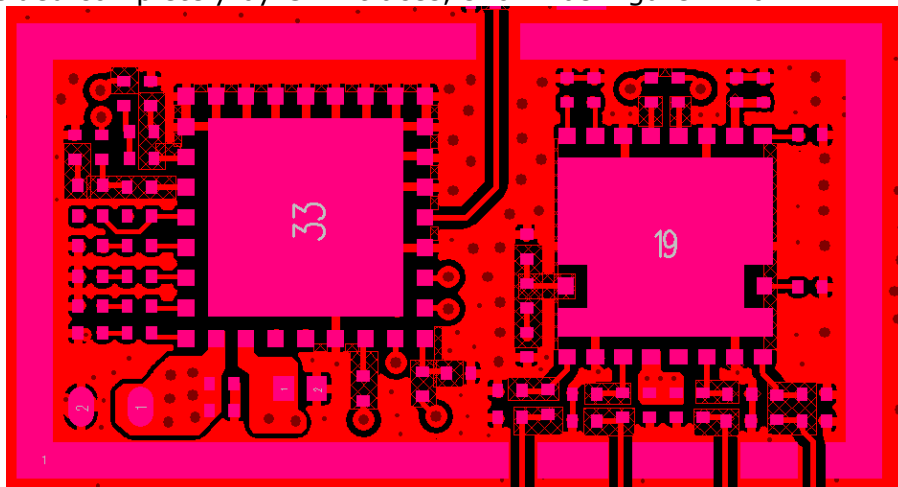

Figure 22-6
- If the module itself is not shielded, the shielding must be added to the board and shielded completely by GND traces, shown as Figure 22-6.